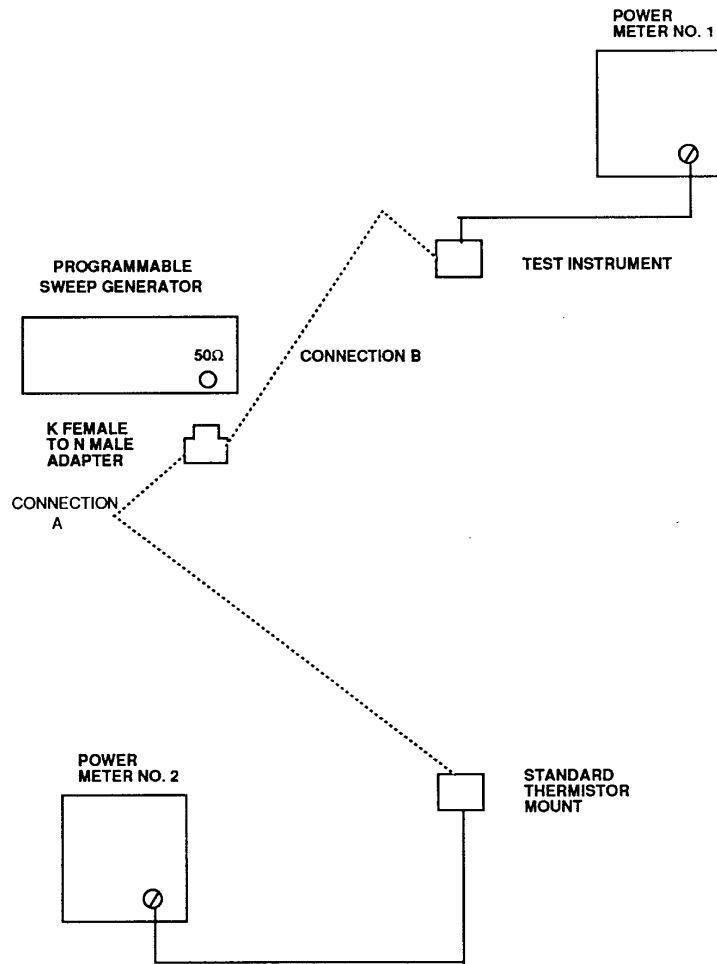

Figure 8. Calibration factor equipment setup.
- k.** Connect equipment as shown in figure 8, CONNECTION A, and allow 1 hour for warmup.
(15) Set power meter No. 1 **RANGE** switch to **COARSE ZERO** and adjust front panel **COARSE ZERO** control for a zero meter indication.
(16) Set power meter No. 1 **RANGE** switch to 1 mW and zero power meter No. 1.
(17) Disconnect power meter No. 2 from programmable sweep generator and connect equipment as shown in figure 8, CONNECTION B.